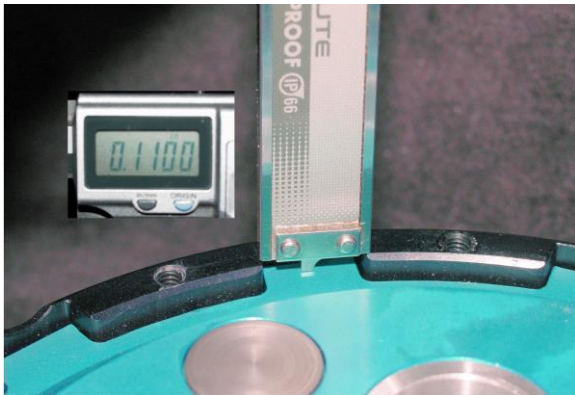
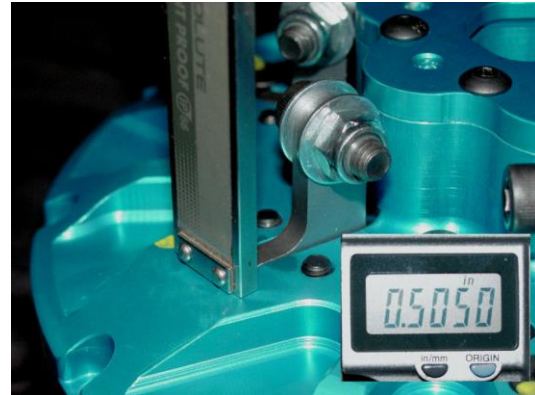

Fig. 1
Fig. 2
- E. Install the friction and metal plates the same way as with the stock procedure, start with a FIBER, then steel, continue until you end with a fiber. The BMW S1000RR Gen II clutch pack has (9) fibers at 0.111" thick and (8) steels plates at 0.079" thick. The total clutch pack should be approximately 1.631". This clutch pack is an after-market clutch pack provided by MTC Engineering. The thicknesses of the steels and fibers do not match the OEM thicknesses, but the cost of this clutch pack is approximately 34% of the OEM clutch pack.
- F. Insert the pressure plate on top of the last fiber. The height from the top of the tang, on the pressure plate to the top of the basket should be approximately 0.110" – 0.115" (See Fig. 1). This will give you an air gap below your arms to the buttons of 0.110".
- H. Place the hat assembly on the basket and tighten the twelve (12) allen head cap screws to secure it.
- I. The air gap between the arms and the pressure plate buttons can be measured using the thin bottom section of a caliper. Stick the caliper rod into the slot opening just behind the arm (See Fig. 2) until it hits the top of the button on the pressure plate. Take a height reading to the top of the Gen II hat, this reading should be between 0.490"-0.510". This gives an air gap of 0.100"-0.120". It is better to start with an air gap of 0.100" to compensate for clutch wear. This technique can be used to maintain the air gap, after repeated runs, without removing any part of the clutch.